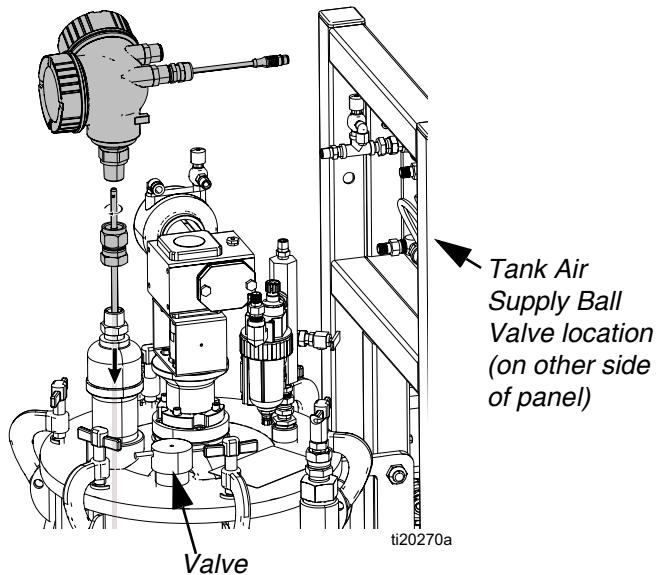

FIG. 9: Level Sensor Installation
1. With the tank empty, close the tank air supply ball valve then open brass valve on tank lid to de-pressurize the tank. See FIG. 9.